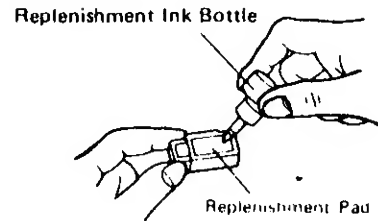

Fig. 14
- 4) Apply ink to the replenishment pad at the back of the store message stamp. The amount of refilling should be adjusted according to the density of the printed message, but the limit of 2 cc should not be exceeded. (The ink bottle supplied contains 5 cc of ink). (see Fig. 14).